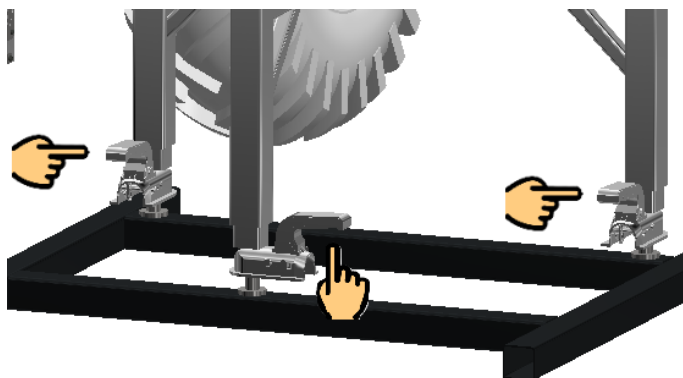

Figura 6.12 – Alavancas dos engates de bola
a) Desaperte as alavancas dos engates de bola do Cavalete (Figura 6.12).